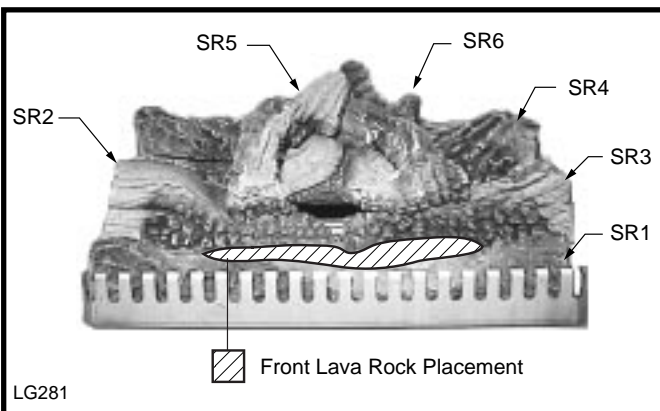

Fig. 20 RHEDV42 log and lava rock placement.
4. Take center refractory and tilt so bottom edge slides into support angle in back of fireplace. (Fig. 20)